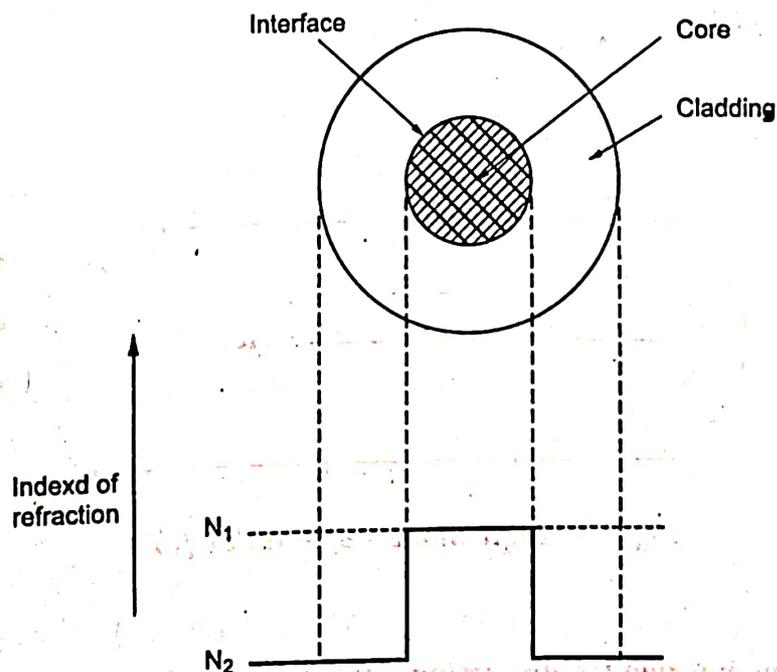

Fig 3.1 A step-index cable cross section
- ♣ As shown in Fig 3.1, here refractive index n_1 of the core is uniform (constant) and refractive index n_2 of a cladding is slightly lower than n_1 . The refractive index profile for this type of fiber makes a step change at the core-cladding interface.